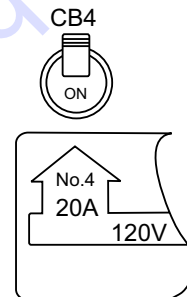

Figure 72. GFCI Circuit Breaker ON
- Place the GFCI circuit breaker, CB4 (Figure 72) in the **ON** position.